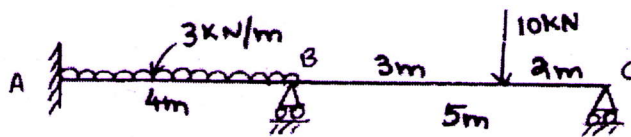

Figure.8
- 7 a) What are the advantages of direct stiffness method (5)
- b) Analyse the beam shown in figure.8 using direct stiffness method and draw the bending moment diagram (15)